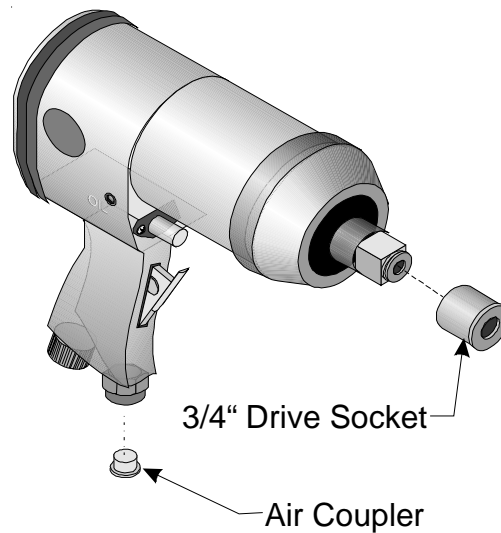

Figure 2 — Attaching the Air Coupler and Socket
- Step 3: Determine the socket size necessary for the job you need to do. Attach the appropriate 3/4" drive socket to the Impact Wrench as shown in Figure 2.